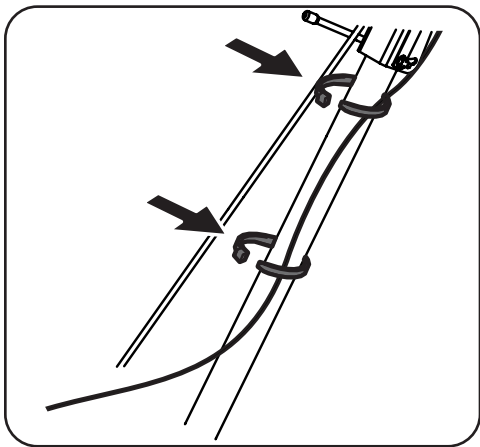

Figure 2-4
- Route the wire up the handle shaft and secure with cable ties just above the lower handle adjust bracket and below the upper handle adjust bracket. See Figure 2-4.